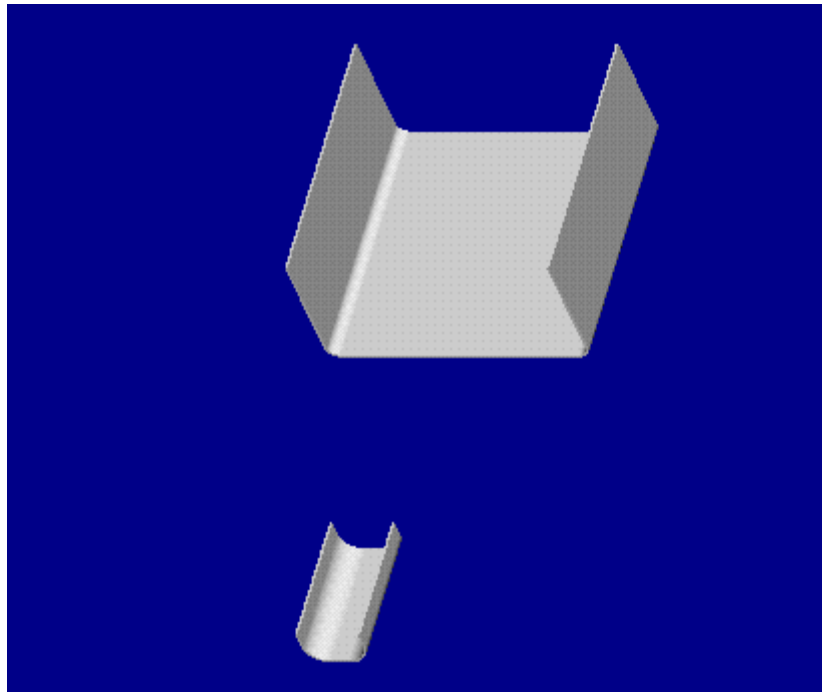

Figure 4
4. **Regenerate** the sketch and select **Done**. Orient the arrow for thickening toward the inside of the sketch using **Flip**. Once the arrow is correctly oriented, select **Okay**. For the depth, select **Blind** and **Done**. Specify a depth for the wall and select **Okay** from the dialogue box. Figure 4 shows the part after the first unattached wall has been created.